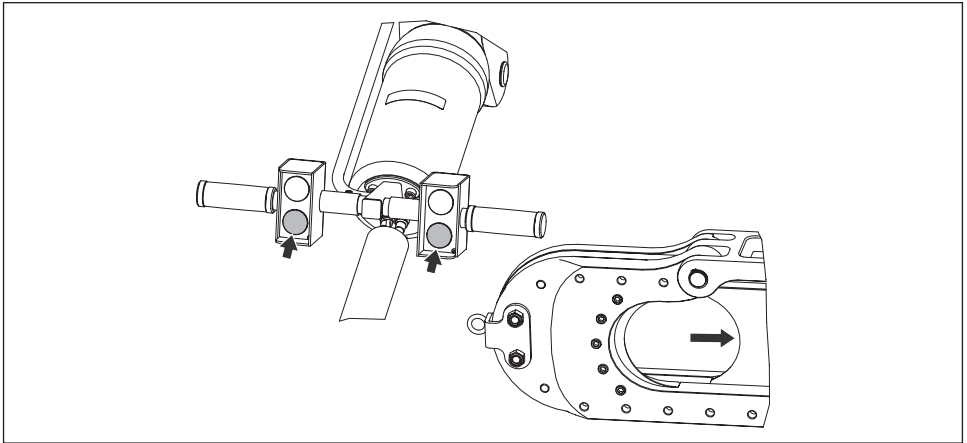

Figure 10, Operation - Retract
- Press and hold both **retract** push buttons to retract the piston and slide the moving blade backward. See Figure 10.